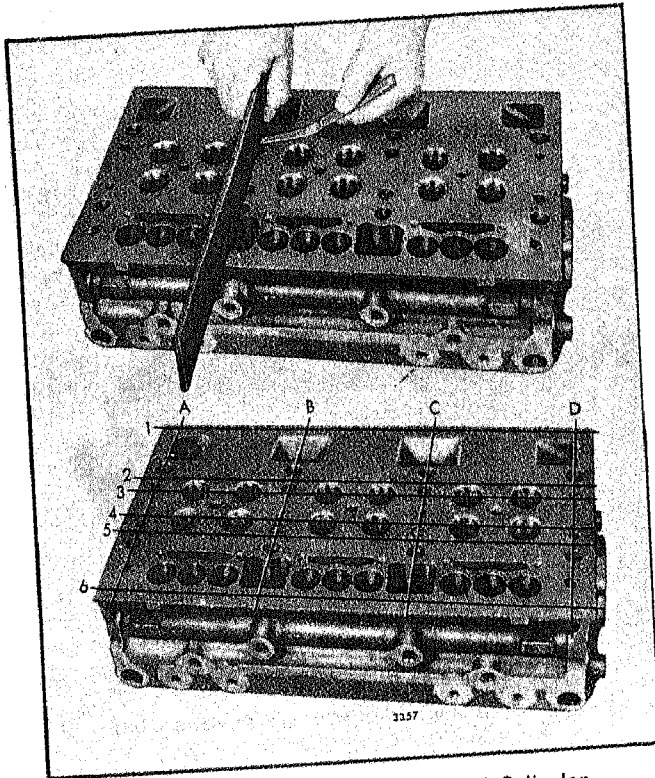

Fig. 3 - Checking Bottom Face of Cylinder Head for Warpage
- a. Use an accurate straightedge and feeler gage J 3172 to check for transverse warpage at each end and between all of the cylinders. Also, check for longitudinal warpage in six places as shown in Fig. 3. Maximum allowable warpage is given in the following chart: